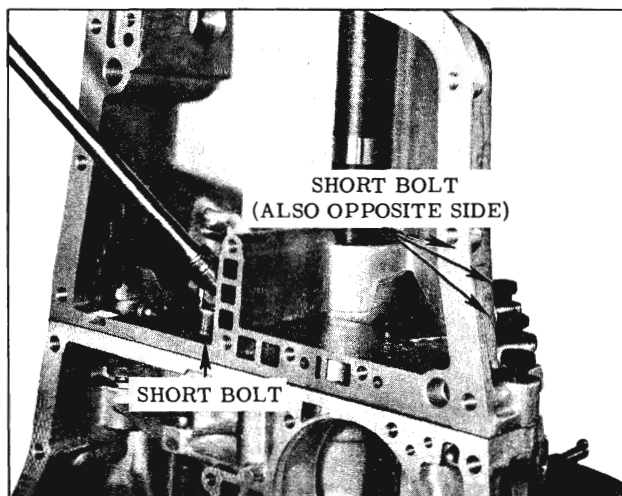

Fig. 3-28 Rear Bearing Retainer Bolts
3. Rotate the transmission so that the output shaft is up, then remove the rear bearing retainer to case attaching bolts (6 on outside and 2 on inside of rear bearing retainer.) (Fig. 3-28)